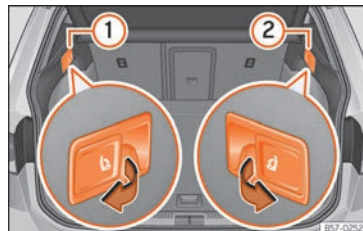

Fig. 124 In the luggage compartment: levers for the backrest remote release mechanism* of the left ① and right ② parts of the rear backrest.
- Pull the unlocking lever »» Fig. 124 of the part of the backrest to fold down.